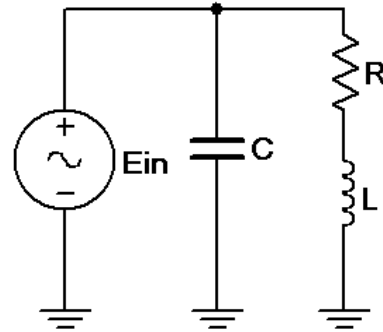

Figure 8.2
7. Using Figure 8.2 with a 10k Hz sine wave at 10 V p-p,  $R=1\text{ k}\Omega$ ,  $L=10\text{ mH}$ , and  $C=10\text{ nF}$ , determine the theoretical inductive and capacitive reactances, series branch impedance and total circuit impedance, and record the results in Table 8.3. Using Ohm's Law compute the capacitor and inductor-resistor currents along with the input current and record them in Table 8.4.
8. Build the circuit of Figure 8.2 using  $R=1\text{ k}\Omega$ ,  $L=10\text{ mH}$ , and  $C=10\text{ nF}$ . Insert a  $10\ \Omega$  current sense resistor at the bottom of the LR leg and another at the bottom of the capacitor leg. Set the generator to a 10 kHz sine wave and 10 V p-p. Make sure that the *Bandwidth Limit* of the oscilloscope is engaged for both channels. This will reduce the signal noise and make for more accurate readings.
4. In general, how would the phasor diagram of Figure 8.2 change if the frequency was lowered?